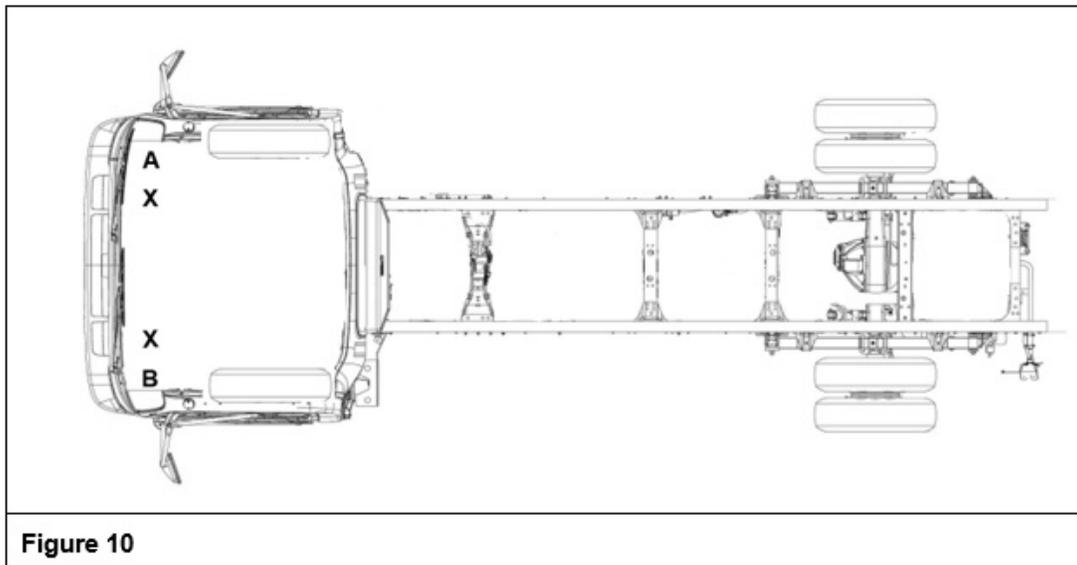

Figure 10
12. When completed there should be 2 Xs under the vehicle as shown labeled **A** and **B** in Figure 10.